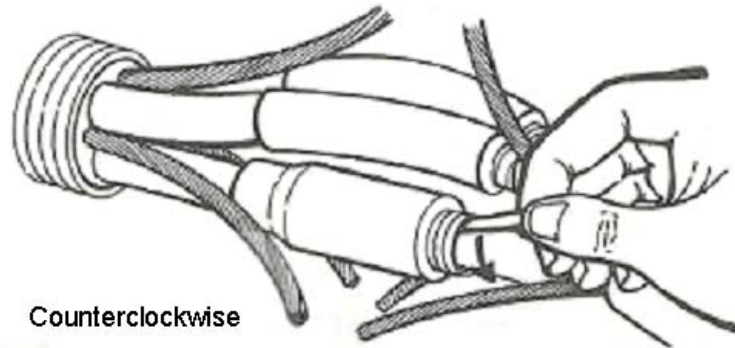

Figure 2
1. Slide insulator assembly over connector area. As the core is removed, the rubber tube will elongate 1/4" (6,4 mm). Position assembly so insulator tube is centered over connection when core is removed. (Figure 2)
2. Remove cores by UNWINDING COUNTERCLOCKWISE. (Figure 2)